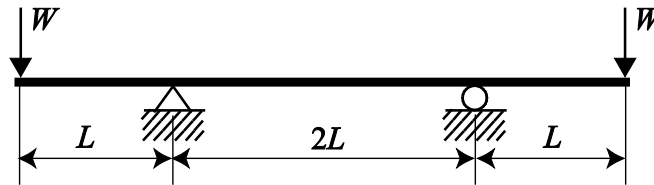

Figure 1
1. The beam shown in Figure 1 is uniform and elastic, with bending stiffness B . Find the magnitudes of the largest upward and downward deflections due to the applied loading.